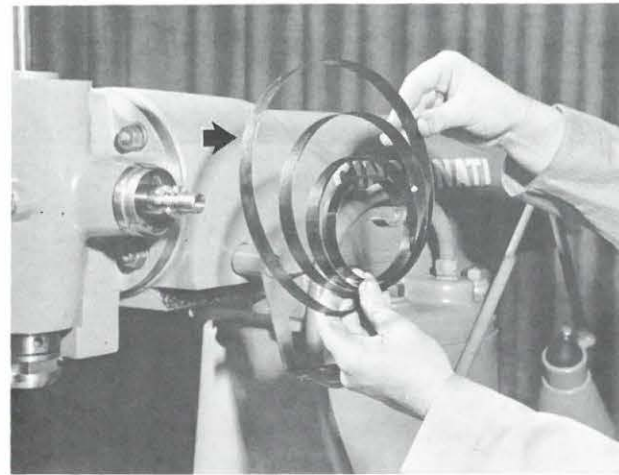

FIGURE 14A
3. Tape a small rag to the exposed end of pinion shaft (183B) to protect shaft when spring unwinds. Grip the tang of spring (187B) with a pliers and place a rag over spring housing. Pull tang of spring free of notch in spring housing (185B) and, at the same time, step back while spring unwinds. The tang at inner end of spring lies in groove of pinion shaft (183B). [See Figure 14A.]